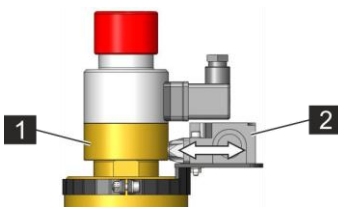

Fig. 97: Adjusting the switch
5. ➤ Pull the switch (Fig. 97/2) as far as possible from the housing of the electrical release device (Fig. 97/1).